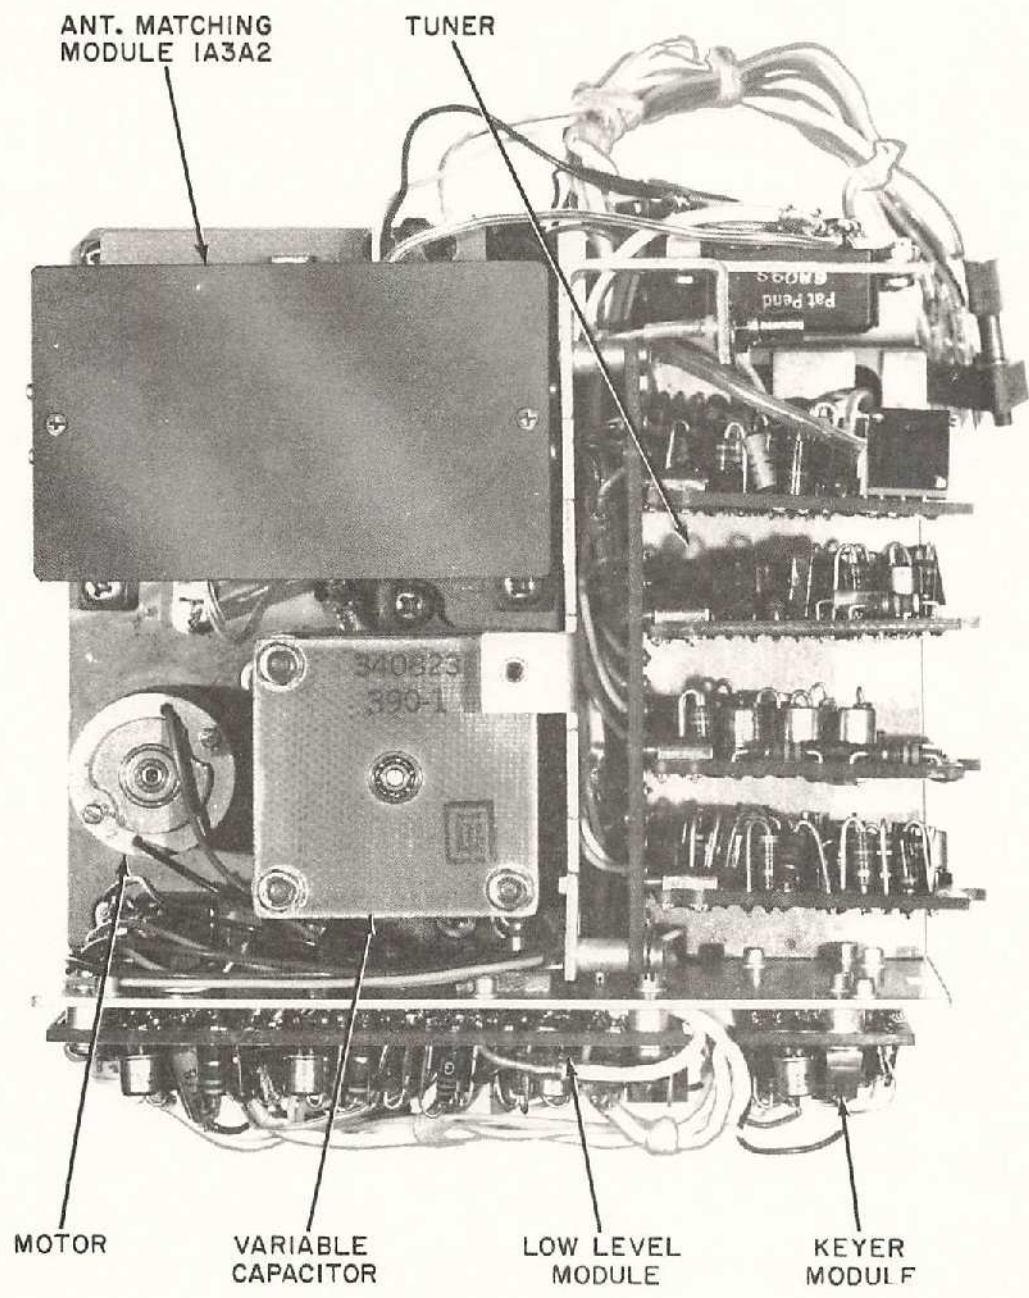

Figure 6-3. Antenna Matching Module Location
6.6 Transmitter Maintenance (Figure 6-3)